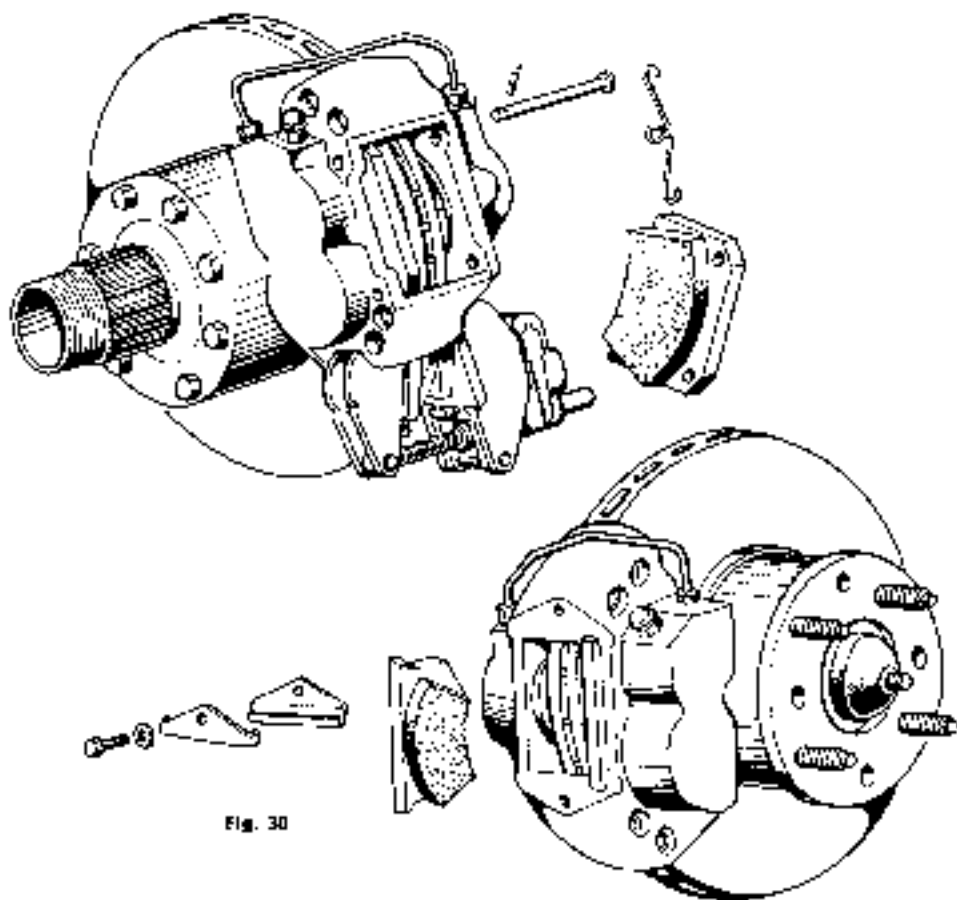

Fig. 30
2 filtri di nylon nelle tazze inferiori centrali. Per accedere ai tappetini i parafango cupserbatoio (Fig. 12-1-A) e di svitare il tappo (Fig. 30, riquadro in basso).
- two nylon filters in the rear lower cups. To reach them, remove the tank cover panels (Fig. 12-1-A) and unscrew the cap (Fig. 30, small button picture).
Check the braking parts which must have a min. thickness of 7 mm including iron shoe. After removing the wheel, the braking parts can be extracted by unscrewing the two plates (front wheels) or withdrawing the two pins (rear wheels), using normal pliers (Fig. 30). The disk surfaces must not show any scoring due to the friction material, in case they do, it is necessary to restore them by a piece of emery cloth. In case of considerable scoring it will be necessary to replace them. The material removal must not exceed 0,5 mm per side. After disassembling, check the utmost perfect parallelism of the disk surfaces with the inner side of the brake calipers and that the disk position in stake with regard to the caliper center line does not exceed 1 mm.